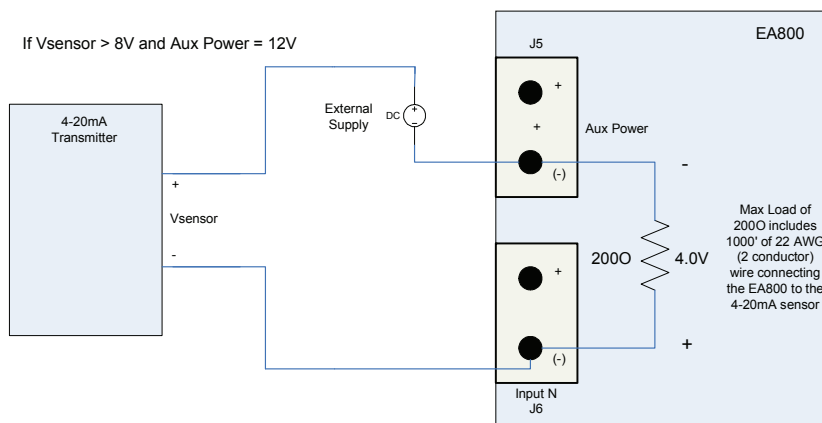

Figure 7 4-20mA Sensor Wiring Diagram - External Power Supply
Figure 7 shows an example of the loop circuit for a 4-20mA sensor whose minimum operating voltage is greater than 8V when connected to an EA800 base unit that is powered with 12VDC.
- If the EA800 is connected to a 12VDC power supply, use of the sensor in this example requires an external power supply of at least 14V as shown in Figure 7.